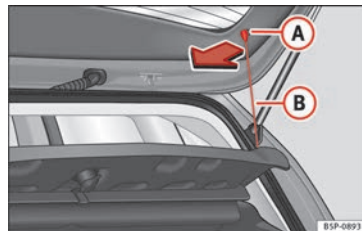

Fig. 103 Rear shelf.
- Unhook the loops » Fig. 103 (B) from housings (A).